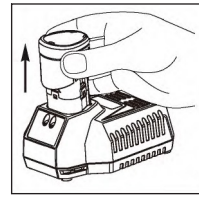

Figure 2
- 3) At the end of charging, green light will come on and red light will go out, indicating that the battery pack is full. Unplug the battery pack and charger plug. (Figure 2)